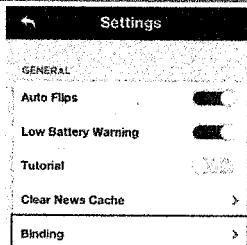
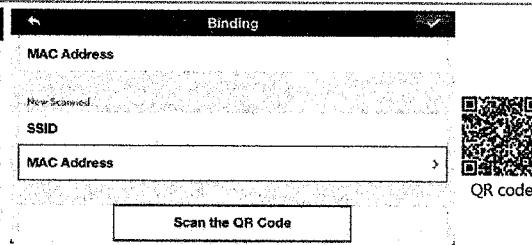
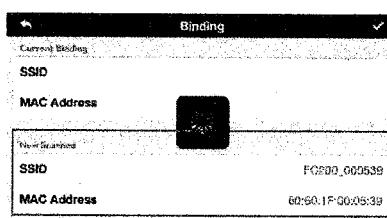
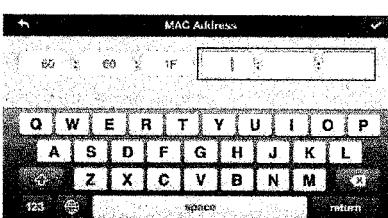

Figure 37
Figure 38
Figure 39
Figure 40
5. (Figure 37) Run the DJI VISION App then tap -> Settings -> General -> Binding. (Figure 38) Select 'Scan
QR Code to scan the camera QR code on the product packaging. (Figure 39) Get the camera SSID (E.g. FC200_xxxxx) and the MAC address. You can also skip the scan and enter the camera MAC address directly (Figure 38, Figure 40). The MAC address can be found on the camera label.